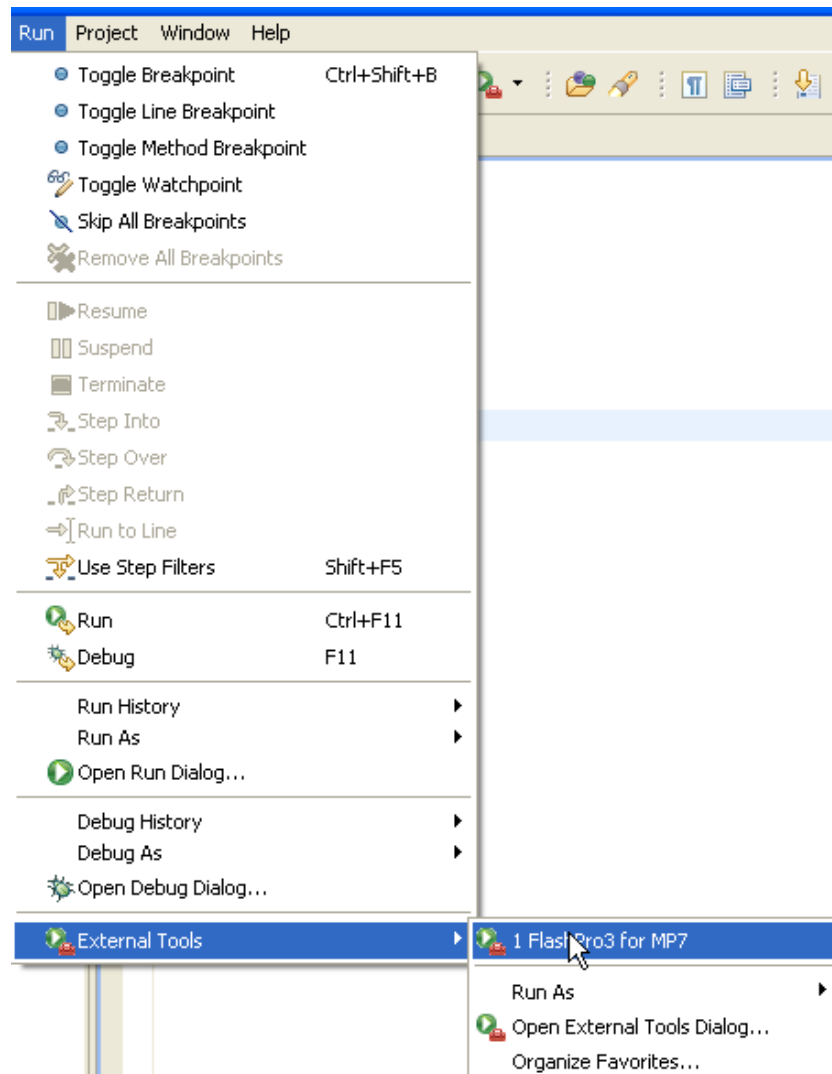

Figure B-2 · Launching the Debugger for CoreMP7
9. Select **Run > External Tools > FlashPro4 for MP7** (or whatever you named your MP7 debug configuration), as shown in Figure B-2.